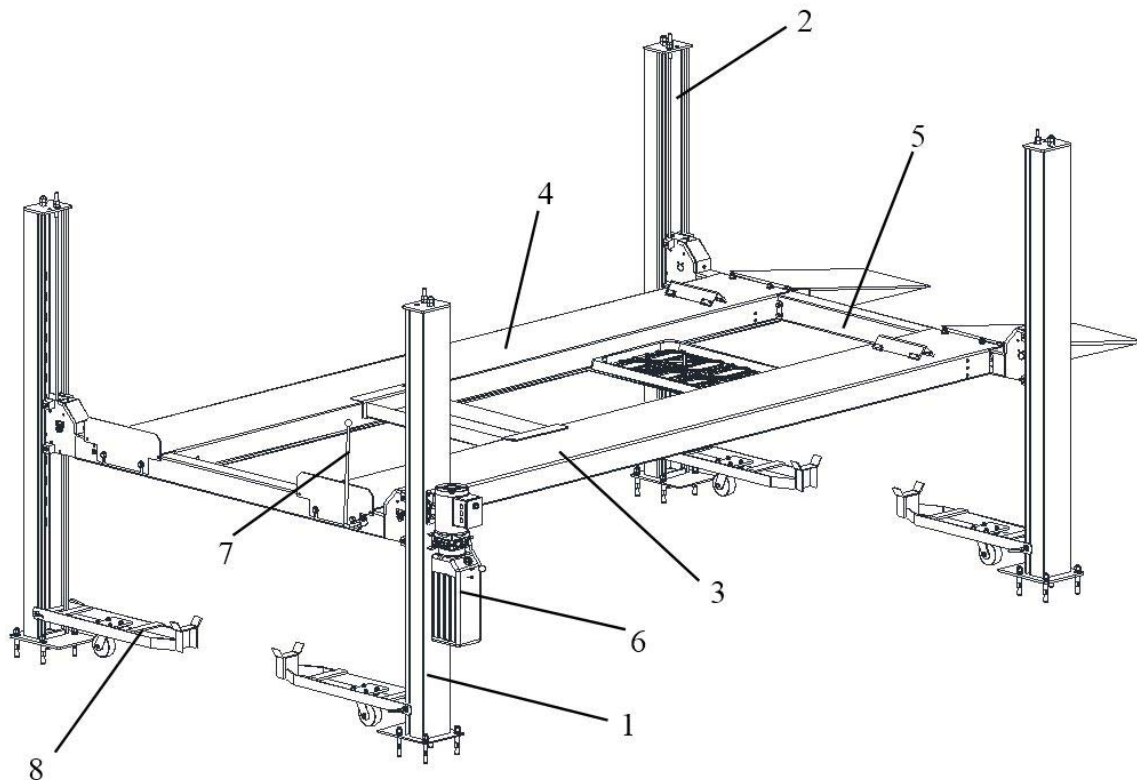

Figure 2 – Lift
This chapter describes the lift's principal elements, allowing the user to be familiar with the machine. As shown in figure 2, the lift is composed of four columns: 1 power-side column (1), 3 off-side columns (2), two platforms: the power-side platform (3) and the off-side platform (4), and two transverse beams (5), anchored to the ground by means of the column base plates.